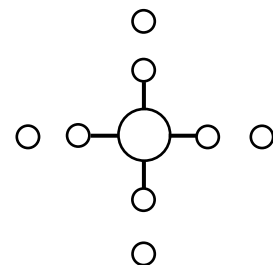

Fig. 1.5.1: Connections layout on the patchboard
- Note: The 2mm and 4mm sockets that are directly adjacent to each other, are connected together. Between any other neighbouring 2mm sockets there is no connection (see Fig. 1.5.1).